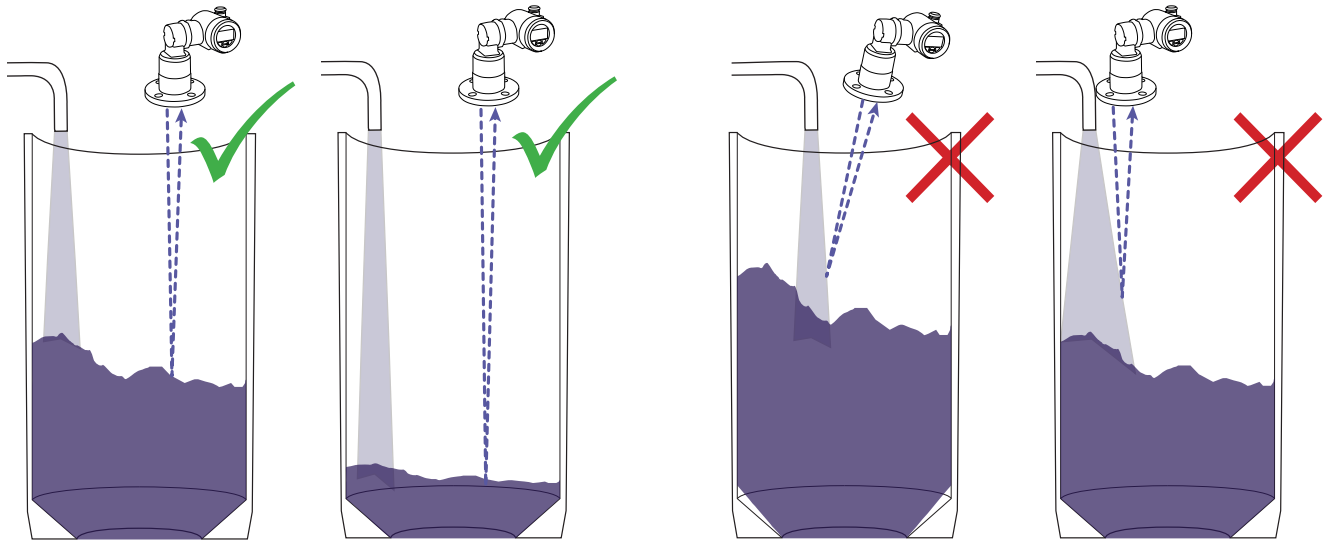
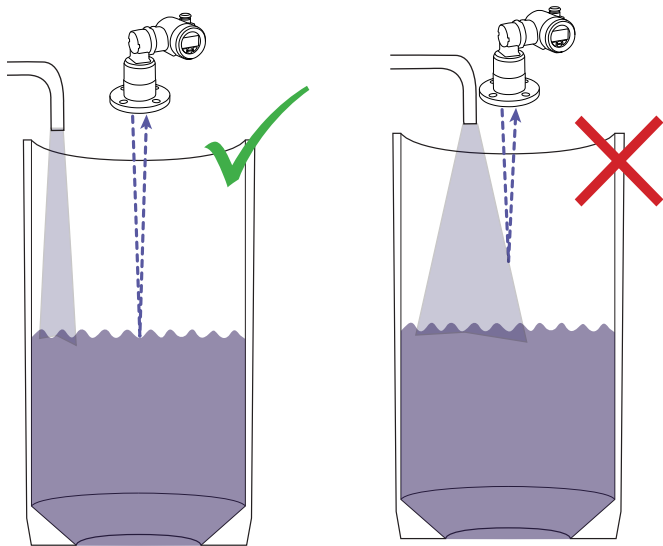

Figure 26 Recommendations for installation in solid vessels
Figure 27 Recommendations for installation in liquid vessels
- Make sure to follow the mounting setup as illustrated in Figure 26 and Figure 27 on page 36.